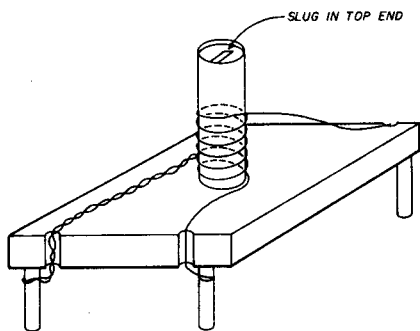

fig. 8. Detailed diagram of the VCO coil. The form is a standard 10-mm shielded slug-tuned form.
Fig. 8 shows construction of the VCO coil.[†] Since this coil form was chosen for reasons of mechanical rigidity, you will need to cover the completed winding with Q-dope or airplane cement to ensure coil stability. Tighten the shield can to the base by making small impressions on at least two sides of the can into the plastic base with a center punch.
- T1 5 1/2 turns, tap at 2 turns, no. 32 AWG (see fig. 8).